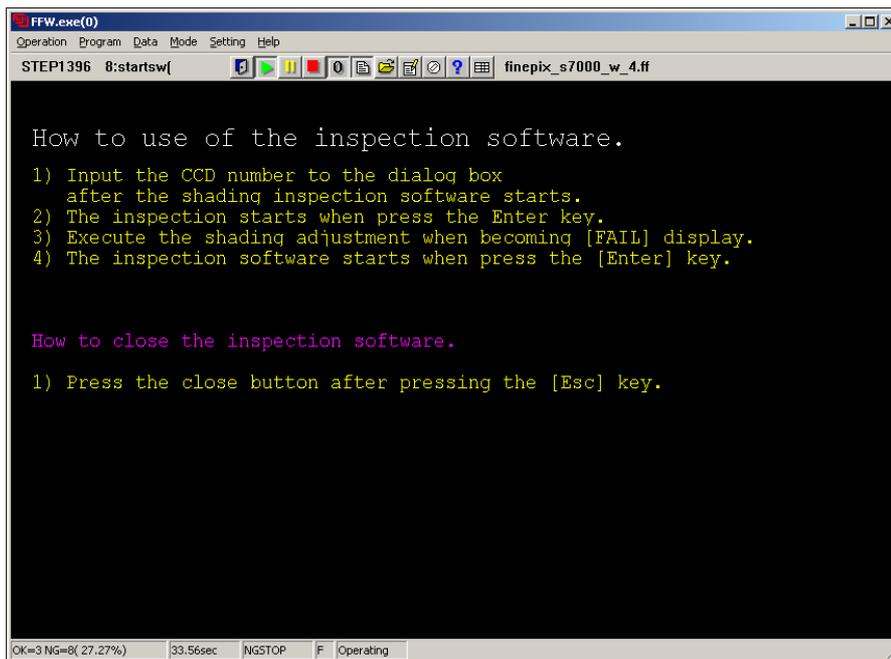

Fig.48
---> The [Using the test program Screen (Fig.48)] is appears.
Carefully read the information in the “Using the test program” window (Fig.48) and then press the “Enter” key on the PC.